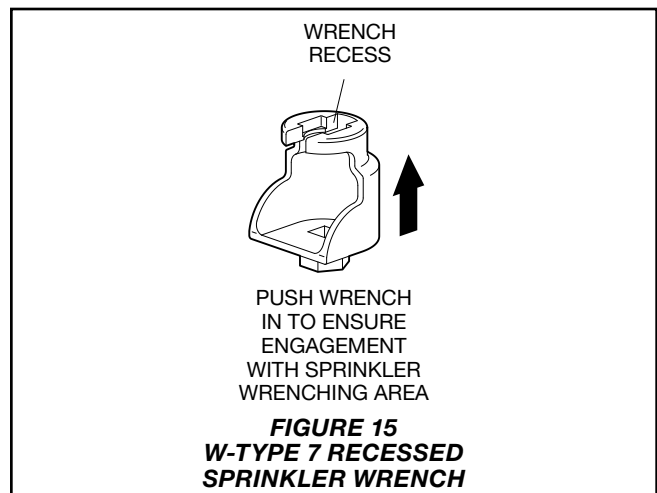

FIGURE 15
Step 2. Tighten the sprinkler into the sprinkler fitting using only the W-Type 7 Recessed Sprinkler Wrench, see Figure 15. With reference to Figure 1 to 4, apply the W-Type 7 Recessed Sprinkler Wrench to the sprinkler wrench flats.